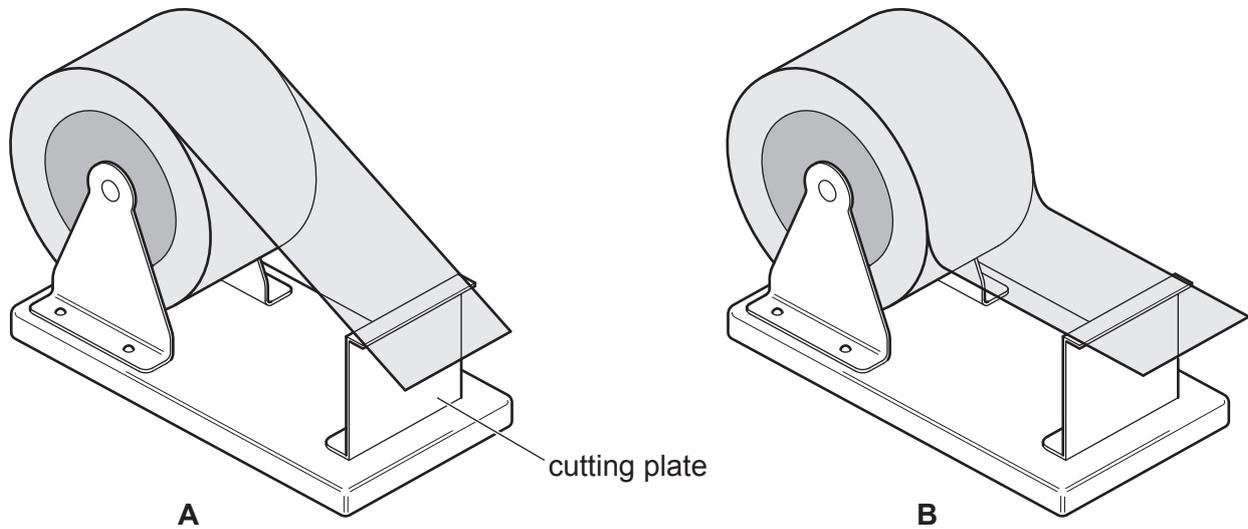

Fig. 12.6
- (e) Fig. 12.6 shows the tape being pulled from the roll.